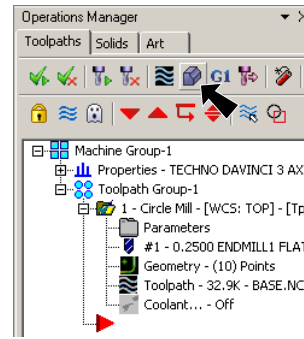

Fig. 29
Step 2. Click **Verify**  in the Toolpaths Manager, **Fig. 29**.